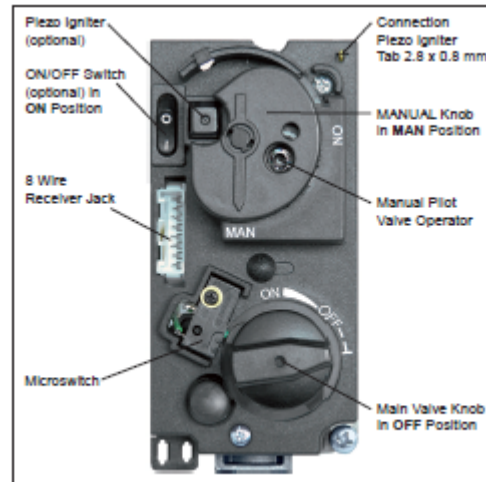

Figure 15: Combination Control, Cover
### MANUAL OPERATION (see figures 15, 16, pg. 5)
5. Wait five (5) minutes to clear out any gas. Verify that no gas is in the area around the appliance, including near the floor. **If you detect gas STOP!** Follow "A" in the safety information on page 1. If no gas is present, proceed to step 6.
8. Fully push down manual pilot valve operator and hold in, to start pilot gas flow (see figure 15).
Change the ignition cable from the receiver to the valve (see figures 15 and 17). Use the push piezo igniter to ignite. If pilot does not stay lit, wait five (5) minutes and repeat.